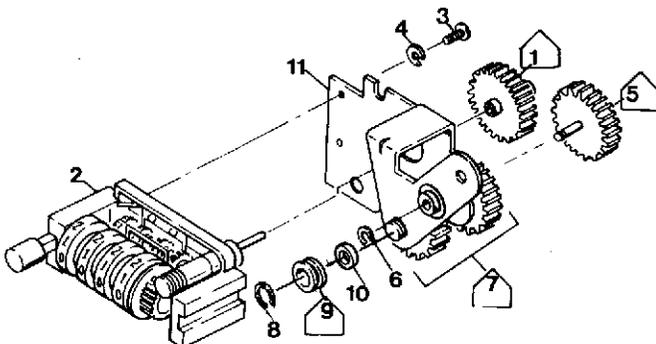

Figure 3-15. FILM COUNTER COMPLETE
3. Film Counter Complete (Fig. 3-15)
- a. Lubricate interfaces of idler gear assembly shaft (7) and bearing (9) with Teresstic N-75 oil.
- b. When gear (5) is rotated, entire gear train and counter must operate freely and smoothly.